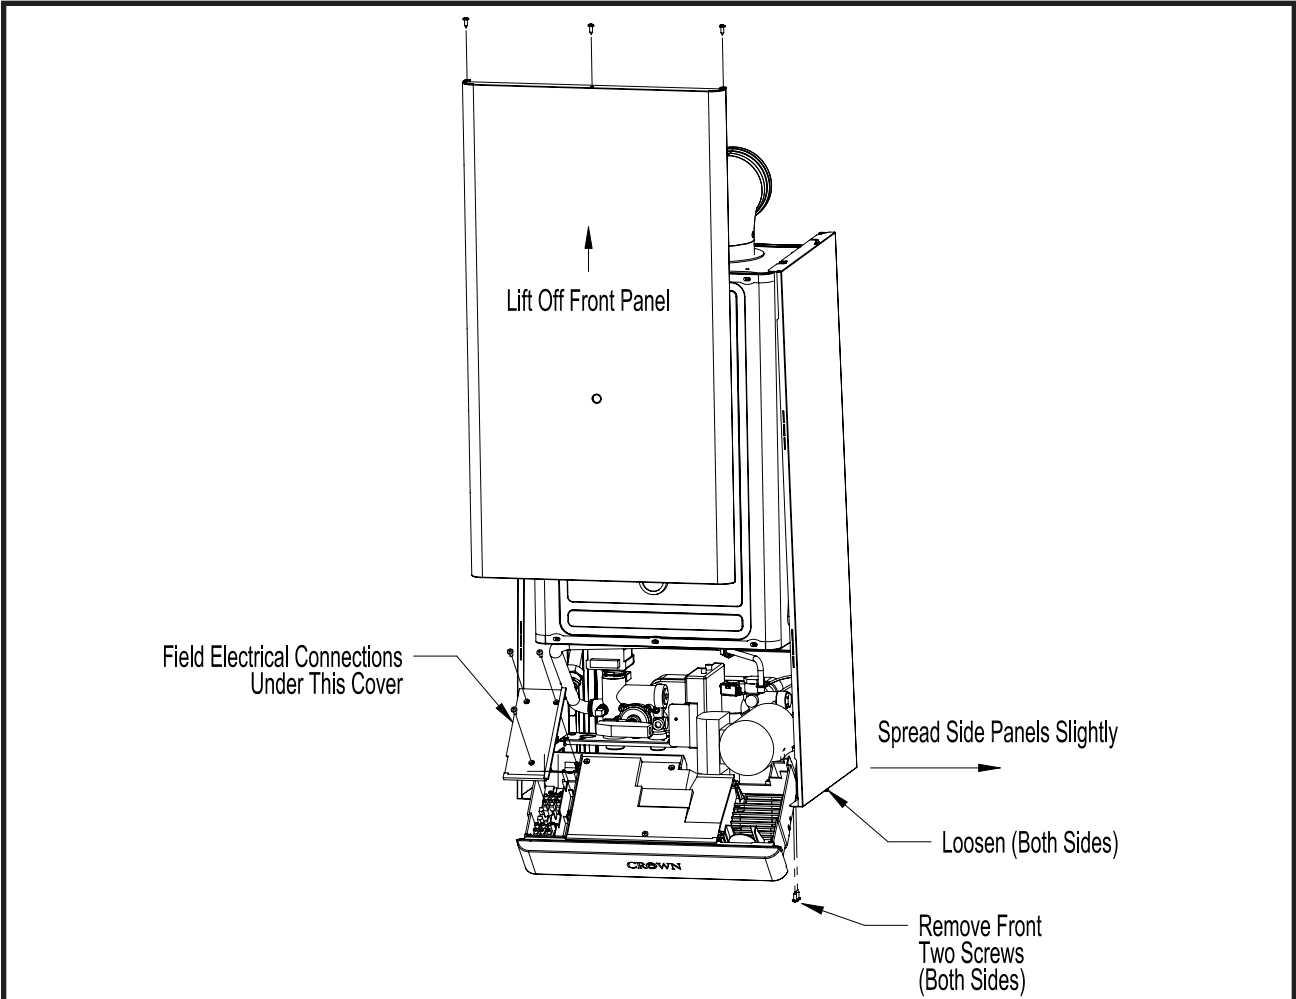

Figure 11.1: Accessing Electrical Connections
- 1) All electrical connections are line voltage (120 VAC) and are located under the cover on the cover on the top of the control box (Fig 11.1). To access these connections, use the following procedure:
- c) Spread the side jacket panels apart slightly, slide the control box forward and then rotate the control box down as shown in Figure 11.1.
- d) Remove the cover shown in Figure 11.1 to access the electrical connections.